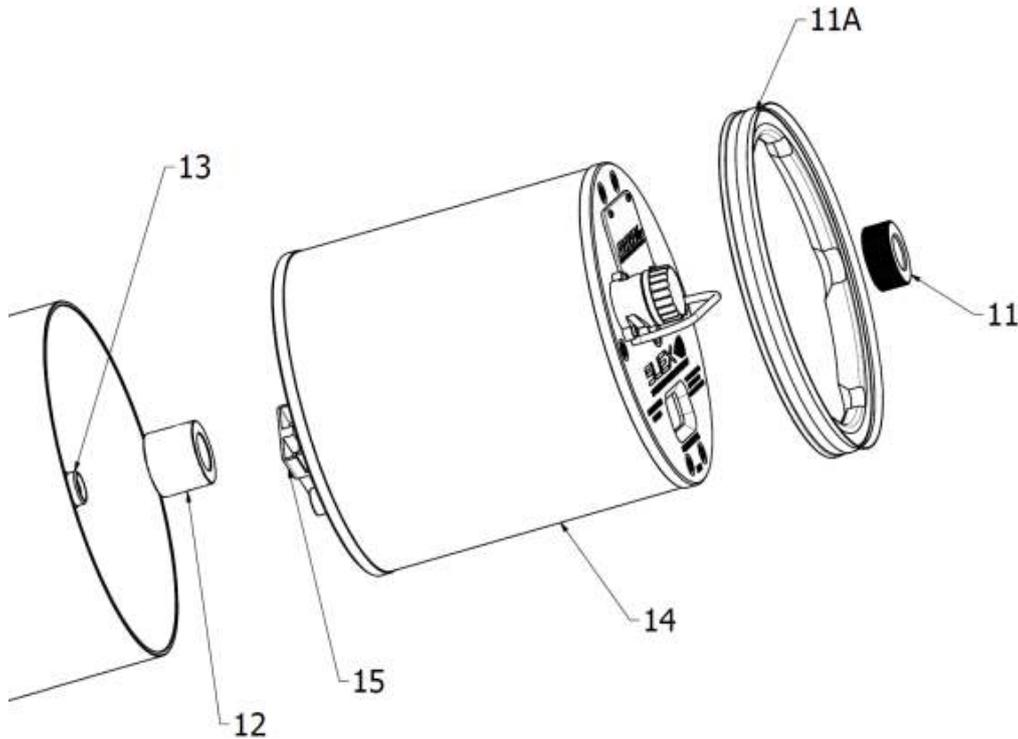

Fig.3
Once the cap has been removed, unscrew the ring nut (11), extract the drop drap ring (11A) and remove the battery (14) by pulling it upwards by sliding it off the rod (13) (fig. 3). When the battery is completely removed, disconnect the red connector (15).
To recharge the battery, remove the battery (14) from the Scooter (fig. 3), put it in a safe place away from people and flammable objects, unscrew the cap of the charging connector (24) (fig. 4), connect the socket battery charger power supply to the mains and connect the charging connector (26) to the battery charger (see Battery charger user manual). At the end of charging, disconnect the battery charger and screw the cap (24) of the connector (26) back on. Insert the battery into the scooter only if you intend to use it.
- Screw the ring nut (11 - Fig.3) and close the scooter (see paragraph "Closing the battery compartment").